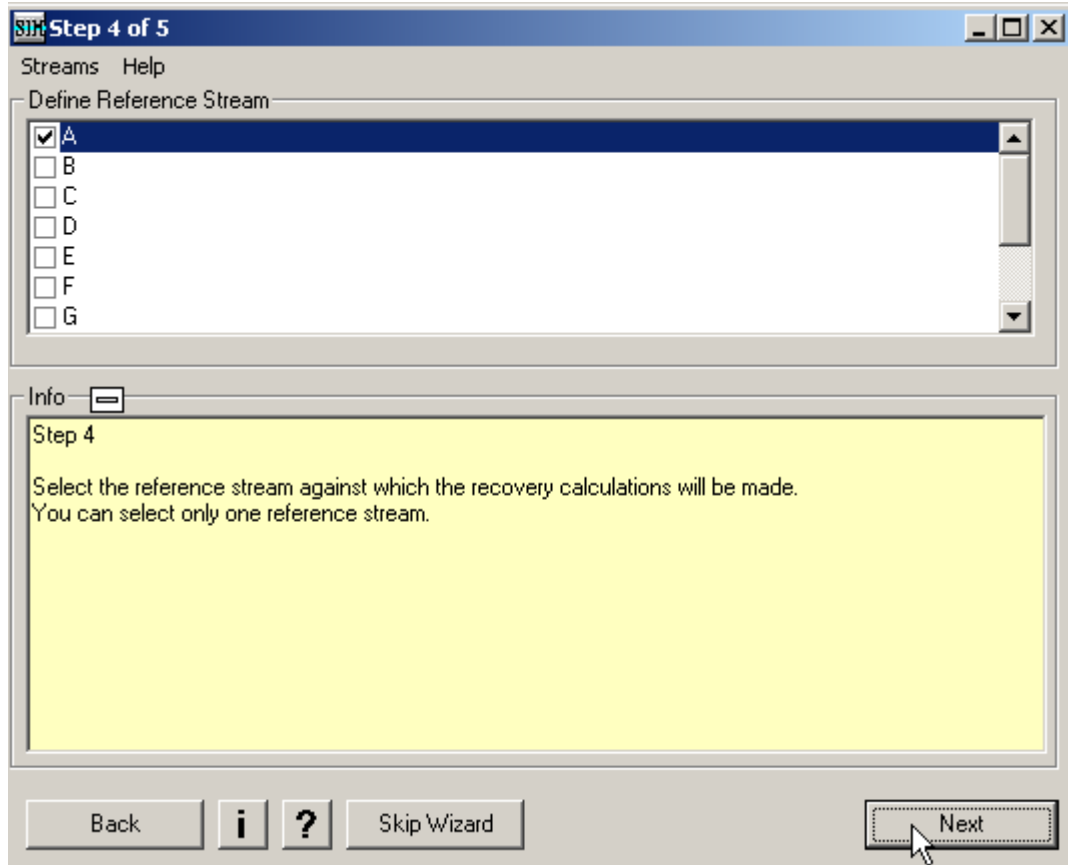

Figure 14. Step 4. Reference stream
5. Step 4; the reference stream is “A”. Press Next (Figure 14).